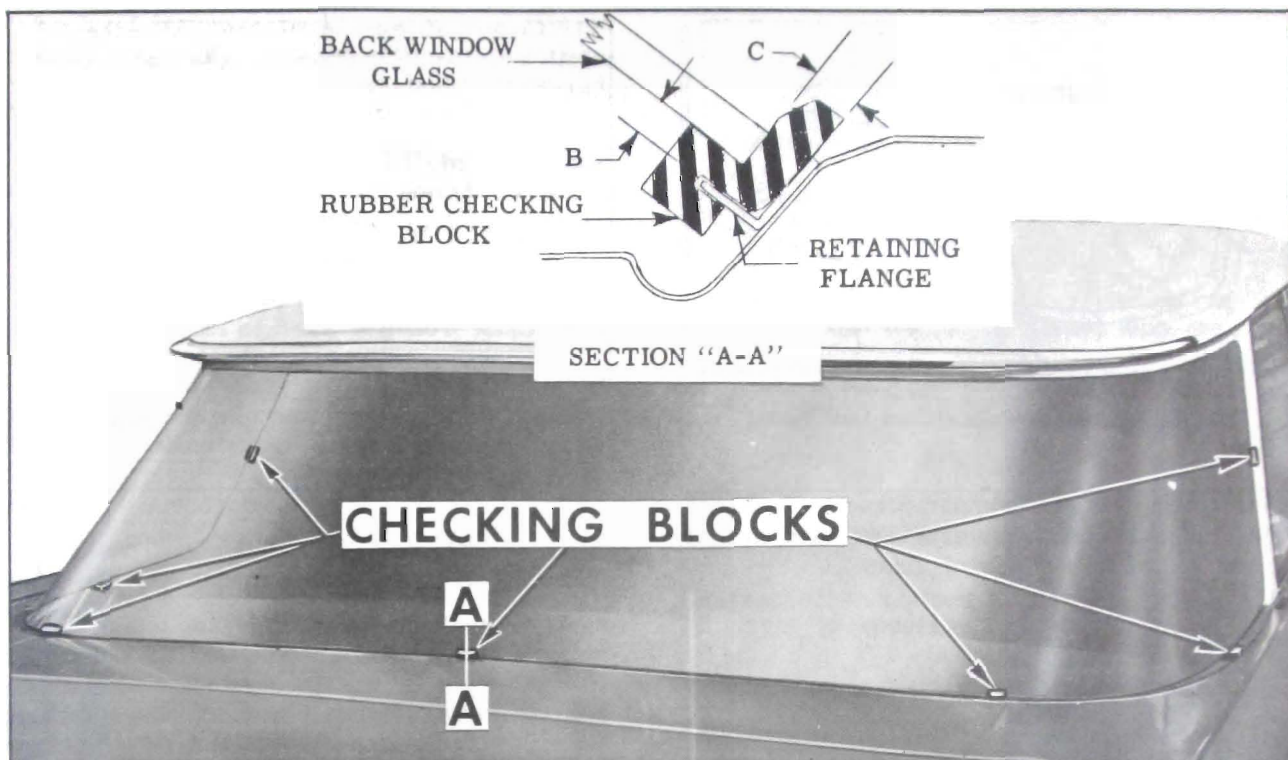

Figure 4-2—Back Window Opening Check
3. Install seven (7) windshield check blocks (Part No. J-8942) over pinchweld flange at locations shown in Figure 4-2.
5. With back window glass supported and centered in the opening by checking blocks, check relationship of glass to body opening around entire perimeter of glass. The distance between the inside surface of the glass and the pinchweld flange, indicated at "B" in Section "A-A", Figure 4-2, and between the outer edge of the glass and body metal, indicated at "C" in Section "A-A", Figure 4-2 should be uniform along the bottom and at the sides of the glass and body opening. Any irregularities should be marked and reformed. The distance between the outer edge of the glass and body metal, indicated at "C" in Section "A-A", Figure 4-2, increases at the upper corners and along the top of the opening.